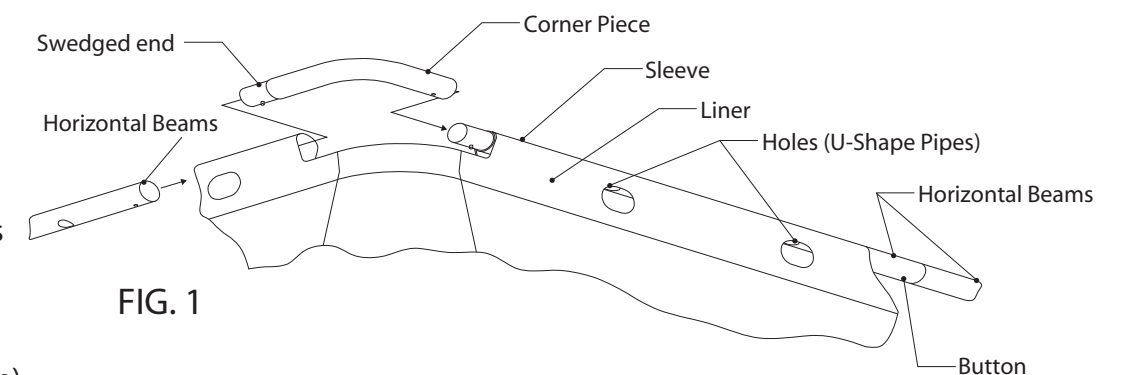

FIG. 1
2. Locate the four metal (Corner Pieces) of pipe Fig. 1, then place one at every corner of the pool. Now locate the (Horizontal Beams), insert a (O-Shape Spring) see Fig. 2 in each smaller swedged end of these only to join the beams together in length, **Note:** No O-Shaped Springs are used in the Horizontal Beam end attaching to the corner pieces or in the corner pieces themselves, please see the assembly drawing page 5 for proper O-Shaped spring locations.
direction around the pool with all swedged parts pointing clockwise) see Fig. 1 and refer to the **5** “View of All Frame Assembly Parts” shown on page 5.
Connect the (Horizontal Beams) together pushing the button in as you insert one beam into the other beams end. Look through the locking hole in the beam as you join them, slightly rotate the beams until the button aligns with the hole and pops up, locking that beams end into the other beams end. Repeat this procedure for the remaining (Horizontal Beams) making certain the holes in the beams align with the openings in the pool sleeve Fig. 1 these holes are used for the U-Shape Pipe (end) and (side) supports. Next install the corner pieces **(again working in a clockwise direction with swedged ends pointing clockwise)**, slide them together and repeat this procedure for all corners, on the last corner it might be necessary to lift the final joining connection at an angle to allow the pipes to fit into each other slowly lowering the ends flat again then sliding them together until it fits in completely, this step may require two people. Now double check all (Horizontal Beam) and (Corner Piece) connections at this time.